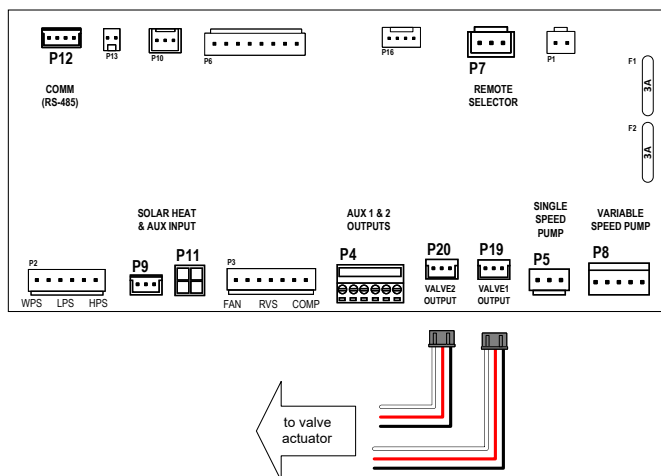

Figure 134. Wiring Valve Actuator Harnesses
2. Connect the field-supplied valve actuator harnesses to the terminals of the control board marked as "VALVE 1" [P19] and "VALVE 2" [P20]. Note that the rating of the control contacts is 0.75A at 24VAC. See Figure 134.